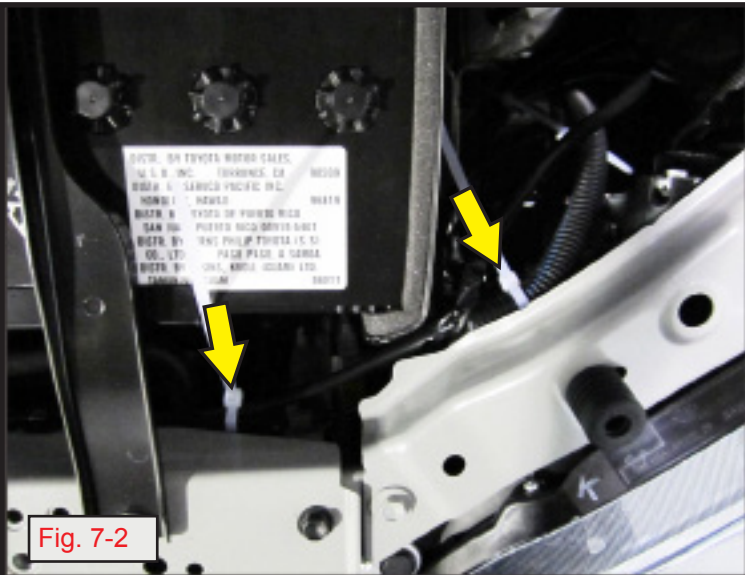

Fig. 7-2
- b. At the front of the battery, secure the wire harness to the hood-latch cable with two (2) wire ties as shown (Fig 7-2).